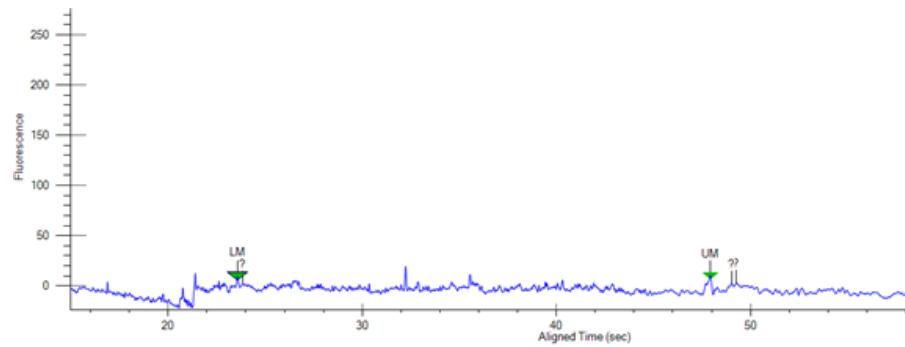
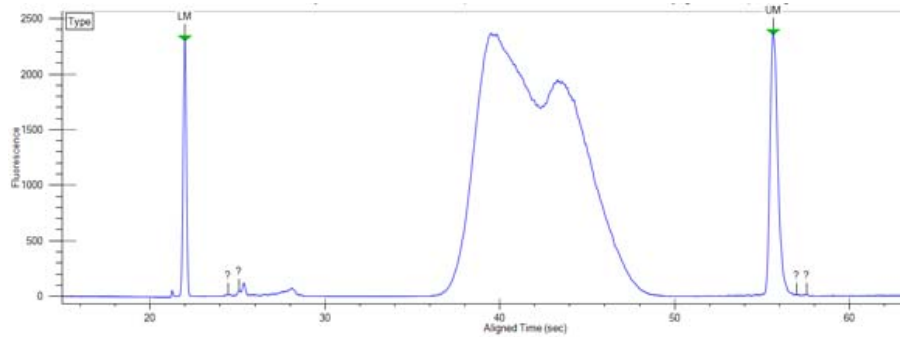
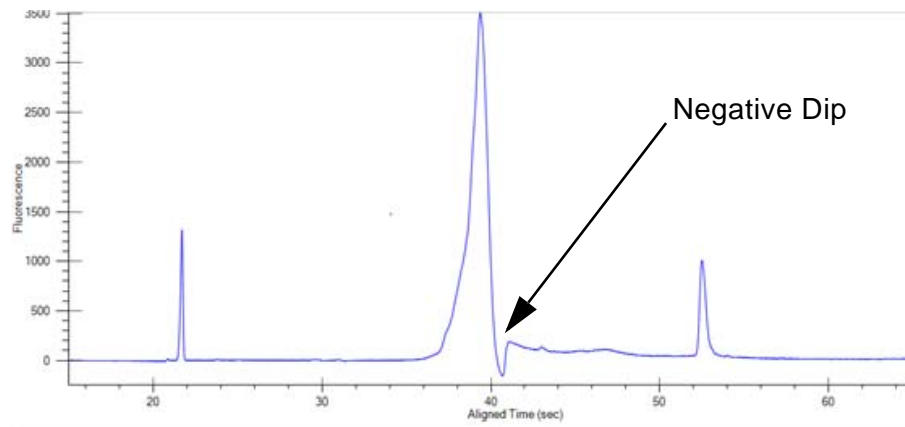

Figure 20. Blank Sample with no DNA NGS 3K Marker
Figure 21. Overloaded Exome Library
Figure 22. Overloaded Amplicon Library
- 3** Overloading the sample will also affect concentration accuracy, as dye depletion may occur within the separation channel. Dye depletion will show as a saddle shape in a broad smear or a sharp dip in a narrower smear (see Figure 20 and Figure 21 in the Troubleshooting section). Samples with narrow fragment distributions, such as those seen with some amplicon libraries or size selected libraries, will have a higher risk for dye depletion compared to samples with broad fragment distributions. Smear samples should not be run at on-plate concentrations exceeding 500 pg/μL (concentration after dilution with marker). For samples with narrow fragment distributions, the maximum load will be lower, approaching 50 pg/μL (on-plate concentration) as migration of the library begins to resemble migration of an individual fragment. Note that smears with narrow distributions will also show a lower limit of detection and can be analyzed down to concentrations approaching 0.5 pg/μL.
- 1 Sample concentration is too high creating inefficient staining of the library sample that causes a hump or dip in the signal. (see Figure 21 and Figure 22).
- 2 A narrowly distributed smear, such as an amplicon library, will have a higher risk for dye depletion and a lower maximum concentration. See Figure 22.